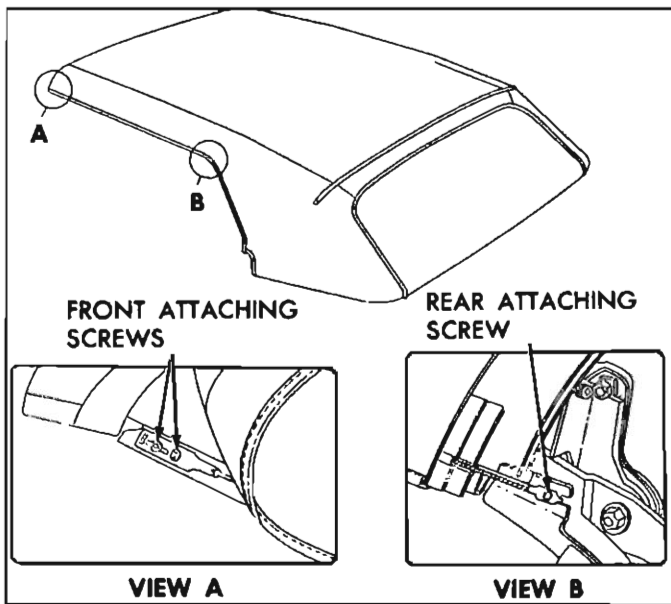

Fig. 41—Hold-down Cable Attaching Screws
5. At right and left side roof front and rear rails, remove hold-down cable front and rear attaching screws (Views "A" and "B" in Figure 41).